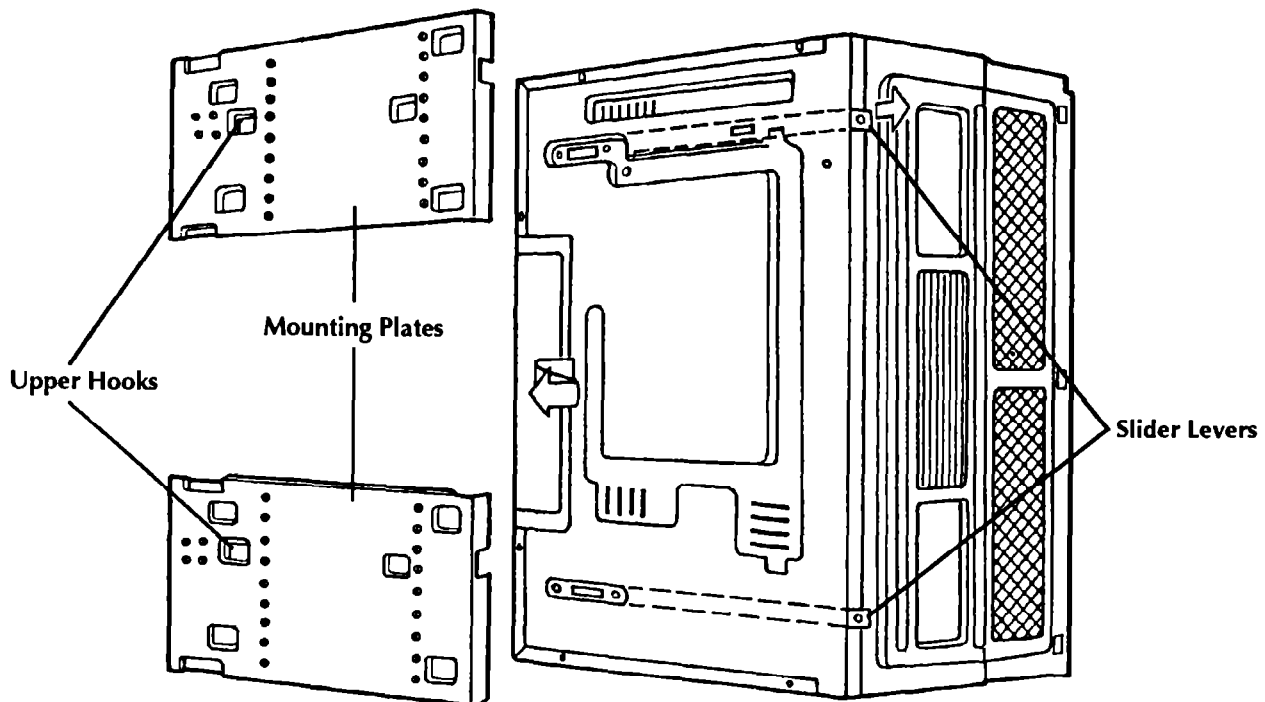

Figure 1.
1. Rest the product on its side as shown in Figure 1. Use a portion of the carton or some other material to protect the outercase. Failure to do so could result in damage to the outercase of the unit.